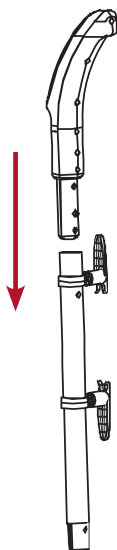

Figure 1
**STEP 1:** Insert the handle into the extension tube until it locks into position (figure 1).